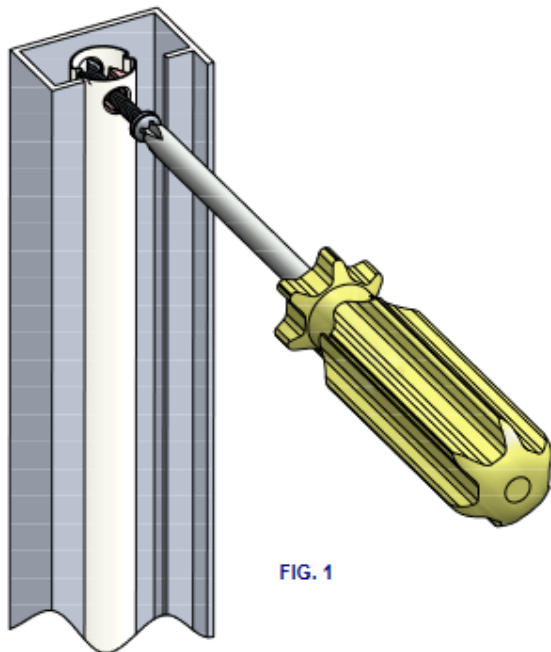

FIG. 1
2. ATTACH THE BALANCE TO THE WINDOW FRAME USING A #8 SCREW (SEE FIG. 1).